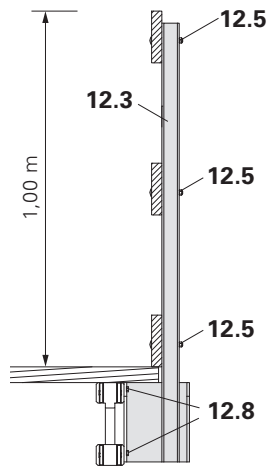

Fig. A1.33
3. Use wood screws (6x) 6 x 80 DIN 571 (12.8) for fixing to girder. (Fig. A1.33)